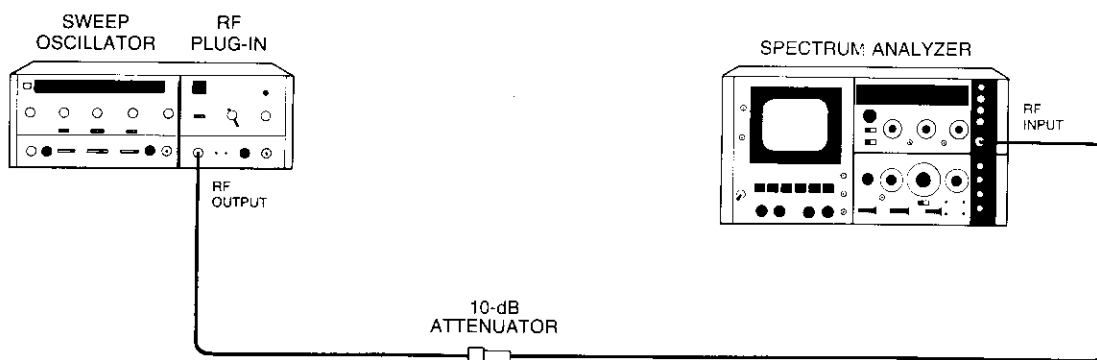

Figure 4-5. Residual FM Test Setup
- r. Connect equipment as shown in Figure 4-5. Allow 30 minutes warm-up time. Set controls as follows: